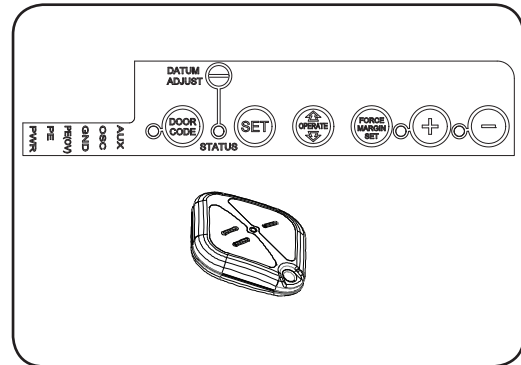

Fig. 31
- Press the DOOR CODE button and release. The DOOR CODE LED will illuminate to indicate the opener is in Code Learn mode. If a valid code is not stored within 15 seconds the opener will exit Code Learn (**Fig. 31**).